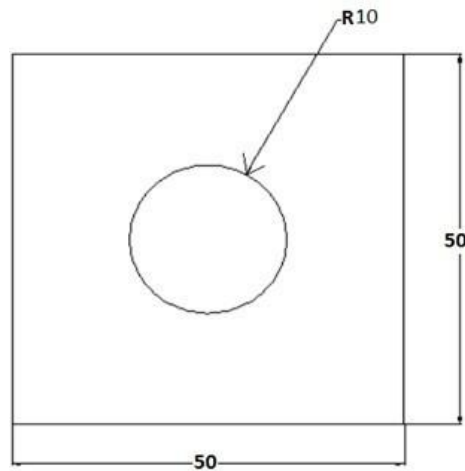

Figure 1
1. Highlight the stress distribution on plate with circular hole as shown in Figure 1 and obtain the plot for deformed shape and stress distribution for given load and assume suitable boundary condition. Young's modulus= $2 \times 10^5 \text{ N/mm}^2$; Poisson's ratio=0.3; Pressure Applied around the inside of the hole= 25000 N ; Material properties: Linear, Elastic, and Isotropic.